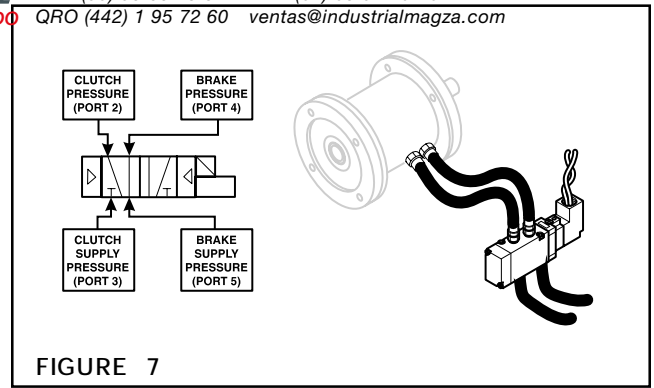

FIGURE 7
1. If the brake is to be set and the clutch is to be **OFF** when the solenoid is de-energized, connect the port marked 4 to the brake and the port marked 2 to the clutch (See Figure 7).
2. Connect the brake air supply line to the port marked 5 and the clutch air supply line to the port marked 3 (See Figure 7).